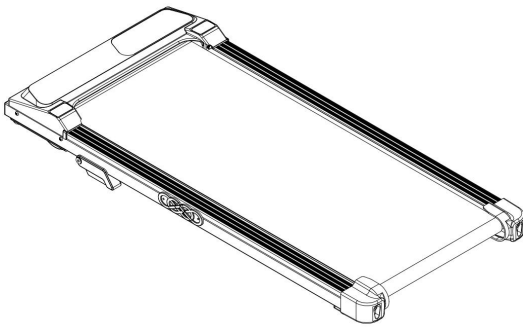

Figure 1
- A. This walking pad is ready to use. Just remove it from the packaging (figure 1), connect to power, and start running.